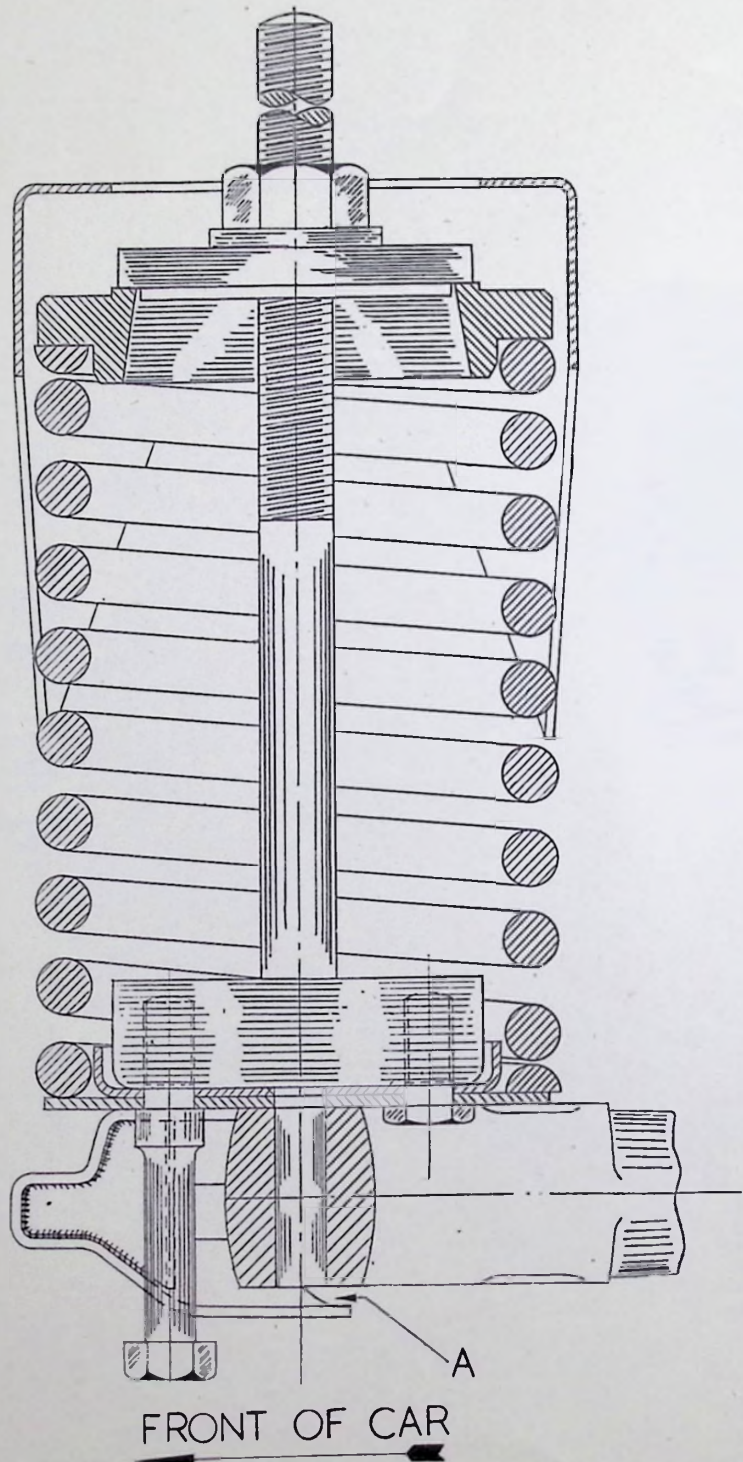

Fig. 4. Spring Compression Clamp.
- (1) Jack up the car under the boss for the rubber buffer fitted to the front suspension arm and remove the wheel.
- (2) Place a second jack under the chassis frame and at a point some six inches to the rear of the pivot pin bush of the strut and just take the weight of the car.
- (3) Remove the Damper, see *Service FZ7*, the two plain washers normally fitted in the space marked A in *Figure 4*, and the sixth bolt holding the aluminium ring to the chassis bracket. On later productions where a strap type of top Damper bracket is used, the locating bolt is omitted, the strap is held by four bolts.
- (4) Place the spring compression clamp in position in the manner shown in the *Fig. 4* and compress the spring to allow a clearance of one inch between the top ring and the chassis bracket.
- (5) Remove the nut securing the link assembly of the stabiliser bar to the bracket on the spring bottom plate for both right and left hand assemblies and turn the bar upwards out of the way of